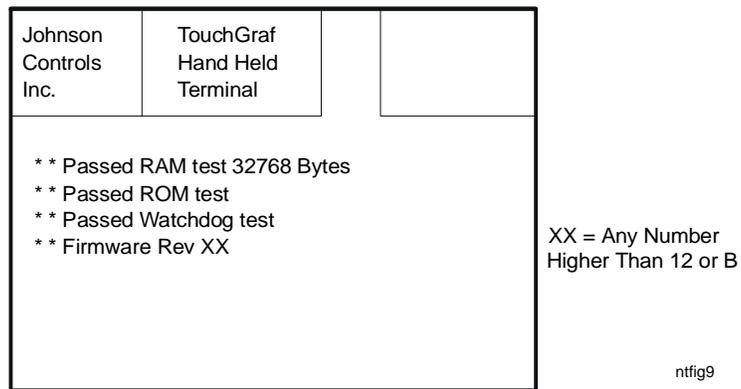

Figure 9: NT Self-Diagnostics Results
3. Observe the NT display and verify a normal startup sequence (Table 3, Figure 9).
4. Observe the NT's display and verify that the startup sequence is normal. Refer to Table 3 and Figure 9.
1. When first connected, the NT performs the self-diagnostic tests listed in Table 3. It emits a rapid sequence of beeps as it passes through each stage; the tests take 3-4 seconds to complete, and then the NT displays the results (Figure 9). The backlit NT model displays only briefly during the self-diagnostics, then resumes a continuous display at the copyright screen (Figure 10).
2. After successfully completing the self-diagnostic tests, the NT displays the messages shown in Figure 9.